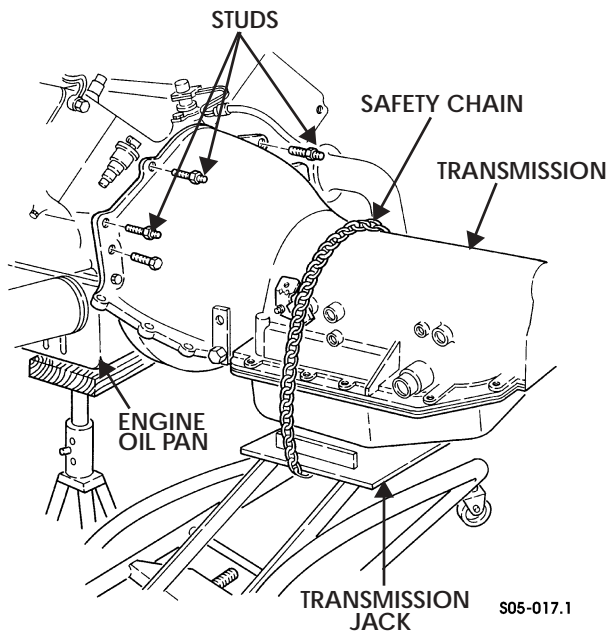

Figure 5-63: Transmission Support
4. Position transmission and transfer case under vehicle and raise transmission into position against engine, align converter pilot into crankshaft, and align transmission case with engine (Figures 5-63 and 5-64).